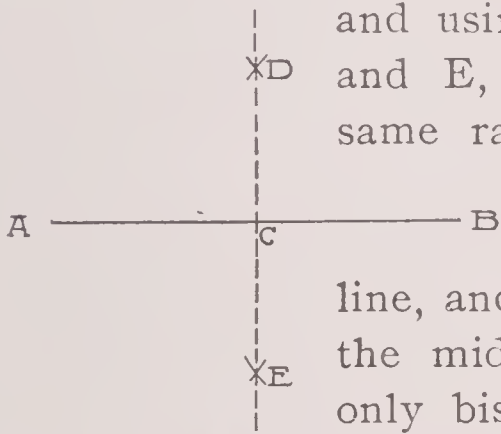

Fig. 4.
4. To bisect a straight line (Fig. 4):